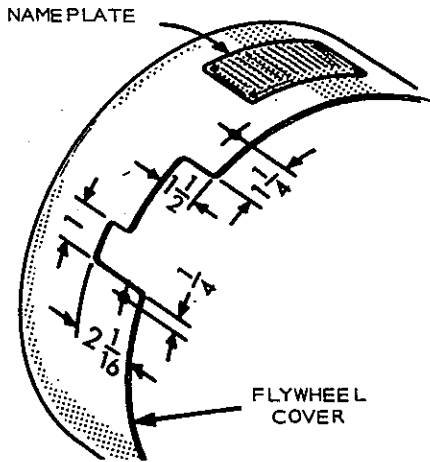

FIGURE 6-34. CUTTING NOTCH IN FLYWHEEL COVER (5MJB ONLY)
6. **5MJB MODELS ONLY**—Cut a notch in flywheel cover to accommodate starter flange. Cut notch to dimensions shown in Figure 6-34.
5. **EARLY MODELS ONLY**—Some early models were built without a hole and weld nut in the front surface of the flywheel cover to mount the belt guard. If there is no hole, clamp belt guard to the heat exchanger bracket and mark location of lower mounting hole. Remove flywheel cover and drill a 1/4-inch hole. For easy removal at a later time, mount the capscrew as shown in Figure 6-34. The 1/4-20 nut isn't furnished. The belt guard can then be mounted on this assembly with a second nut and lockwasher. Reinstall the flywheel guard on the engine.